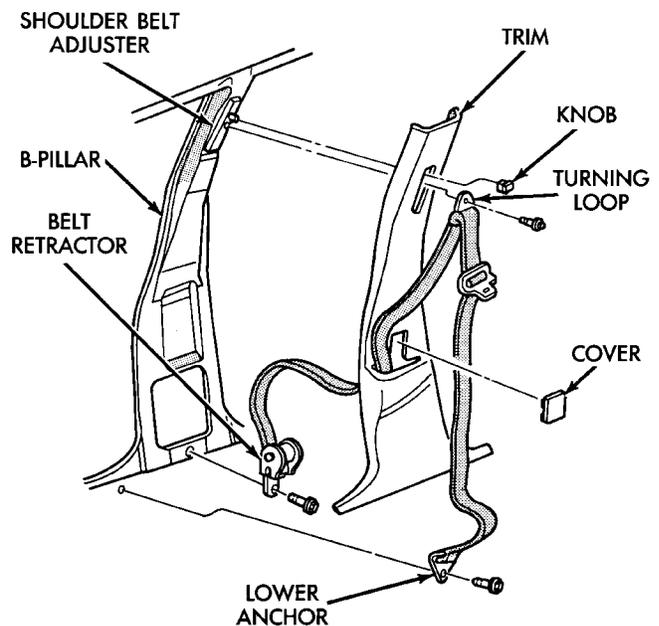

Fig. 65 Front Seat Belt Retractor
- (2) Remove bolt holding seat belt retractor to B-pillar (Fig. 65).
- (3) Separate seat belt retractor from vehicle.